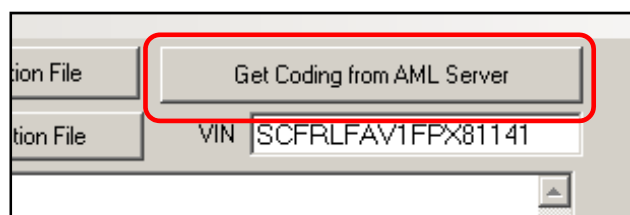

Figure 5
5. Select "Get Coding From AML Server" (refer to Figure 5)